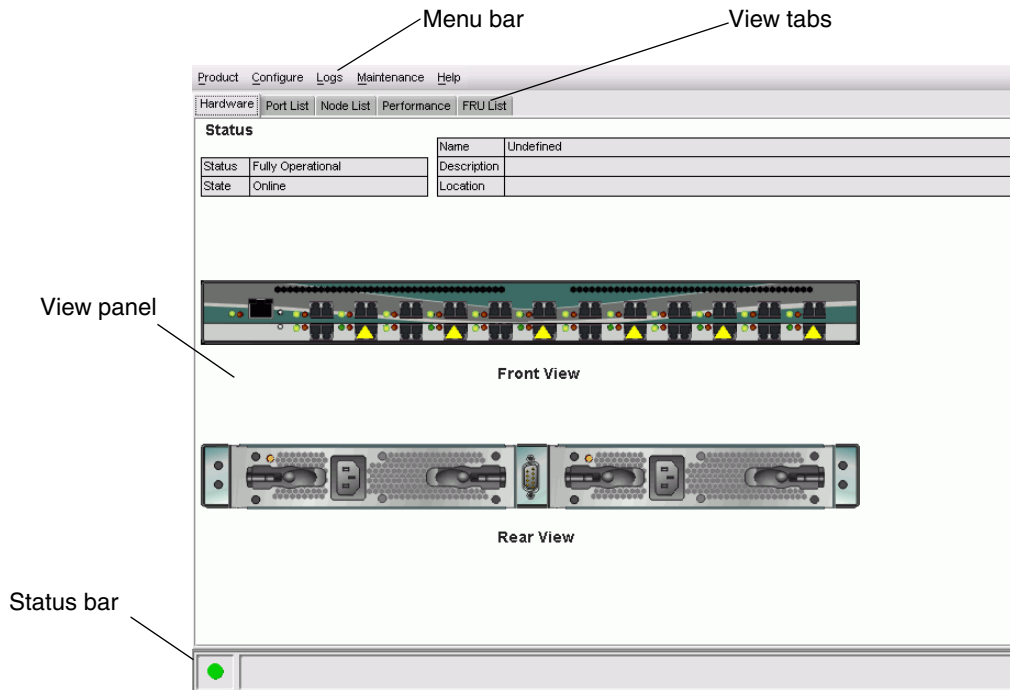

Figure 3: Element Manager window (Hardware View for the Edge Switch 2/24)
- In the HAFM *application*, double-click the appropriate edge switch product icon in the Physical/Topology Map, as shown in Figure 2. The Element Manager window displays, showing the default Hardware View. See Figure 3
3. Click **Element Manager**. The Element Manager window displays, showing the default Hardware View. See Figure 3.
The main Element Manager window is divided into four main areas, as shown in Figure 3 on page 27: Menu bar, View tabs, View panel, and Status bar. You can use the features in these areas to configure switch operation, monitor performance, and access maintenance features.